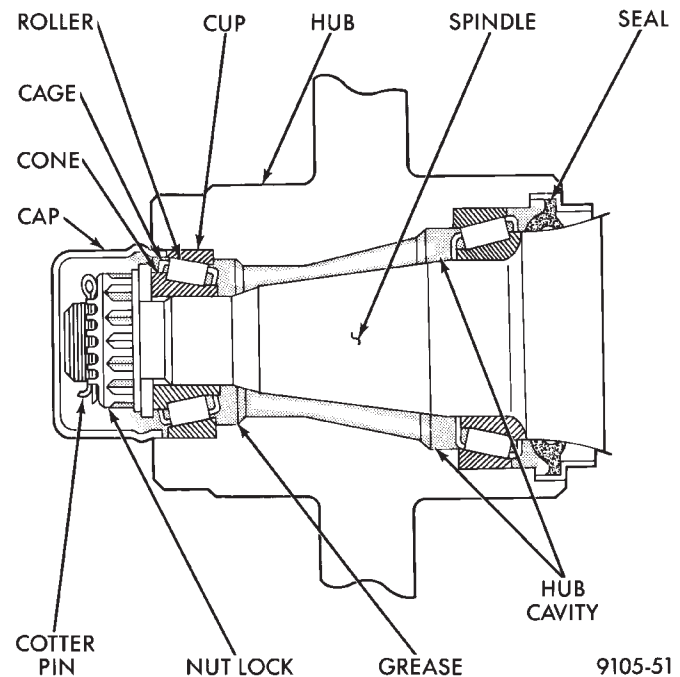

Fig. 1 Rear Wheel Bearings
(1) Remove the rear tire and wheel assembly.
(2) Remove grease cap, cotter pin, nut lock, nut, thrust washer and outer wheel bearing.
(3) Carefully slide hub or drum from spindle. **Do not drag inner bearing or grease seal over stub axle (thread, bearing, and oil seal may be damaged.)** Using an appropriate tool remove the grease seal and inner bearing from the drum or hub. Discard grease seal, a new seal should be used when reinstalling the inner bearing. (See Fig. 1)
(5) Thoroughly clean all old grease from the outer and inner bearings, bearing cups and hub cavity (See Fig. 1). **To clean bearings, soak them in an appropriate cleaning solvent. Strike the flat surface of the bearing inner race against a hardwood block several times, to loosen grease. Immerse the bearings in solvent between blows to jar loose**